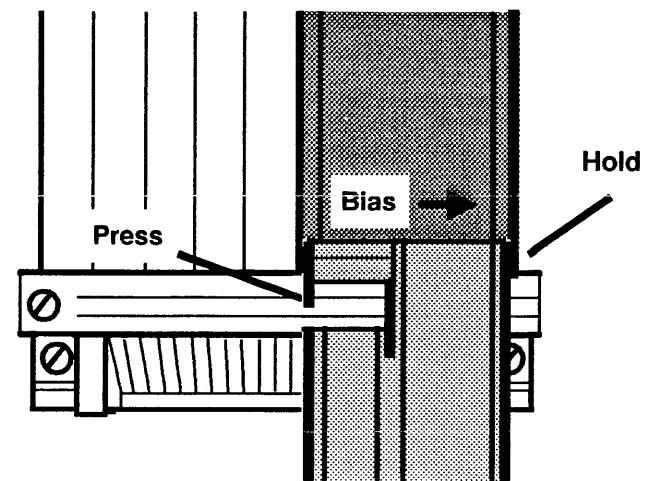

Figure 2. Rear Cover Removal
5. Remove the rear cover (Figure 2).